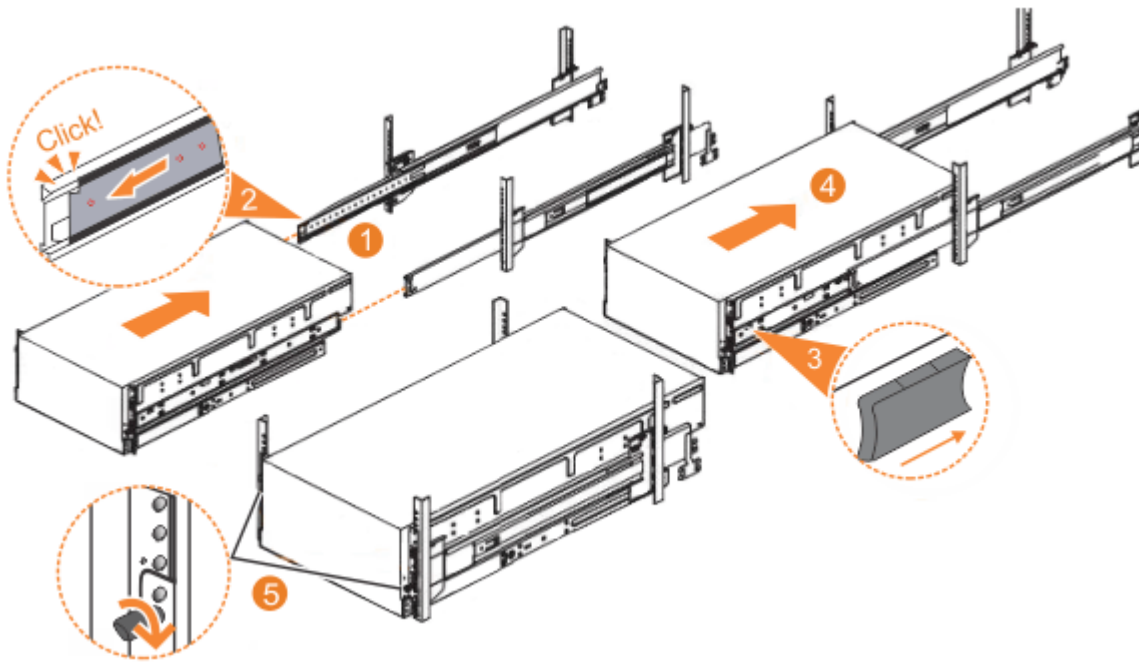

Figure 39. Replacing the 2077-92F enclosure in the rack
1. Fully extend the left and right drawer sections from the rack to lock the rails in the extended position (1 in Figure 39 on page 48).
2. Ensure that the ball bearing retainer clicks into place inside the front of the left and right drawer sections (2 in Figure 39 on page 48).
3. Locate the left and right blue release tabs near the front of the enclosure. Press both release tabs forward to unlock the drawer mechanism (3 in Figure 39 on page 48).
4. Push the enclosure firmly into the rack (4 in Figure 39 on page 48).
5. Tighten the locking thumb screws (5 in Figure 39 on page 48) to secure the enclosure in the rack.